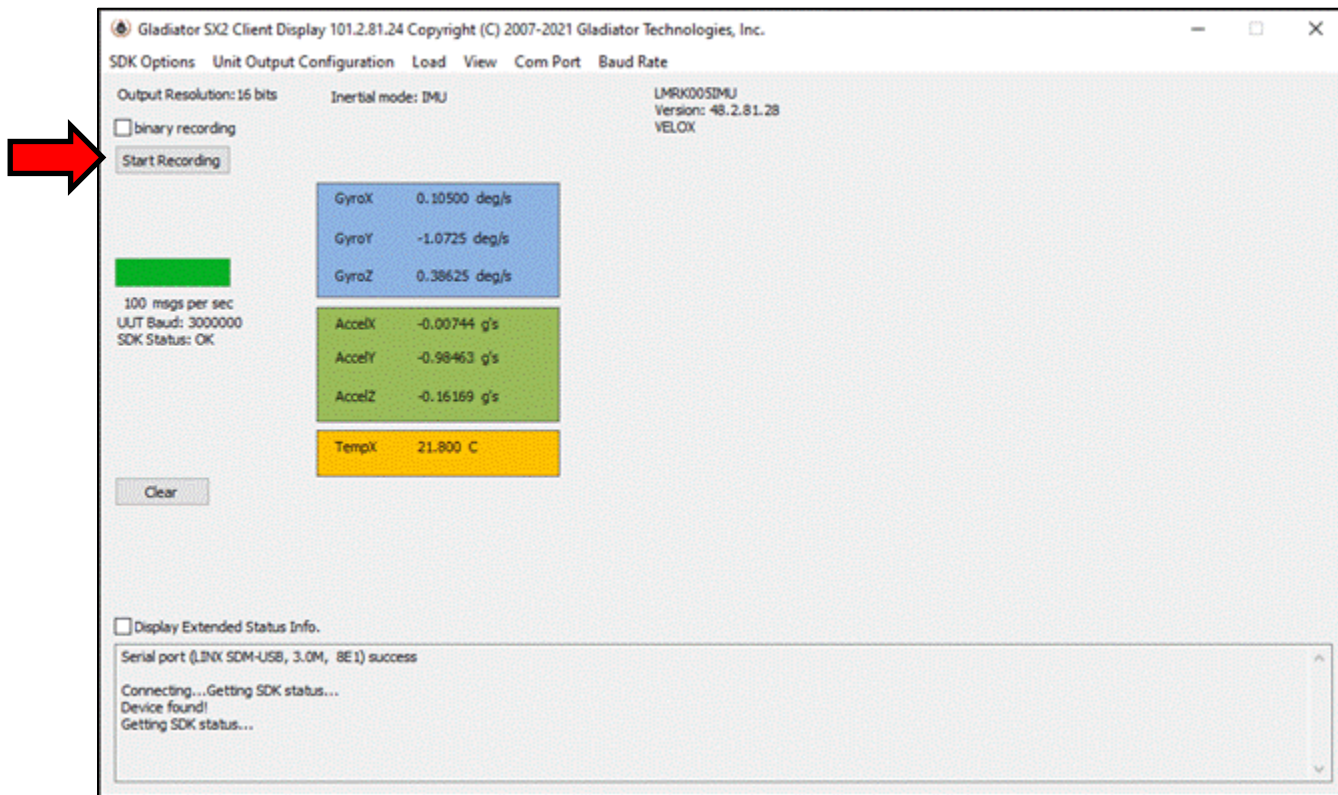

Figure 18. Data Recording button
*Glamr also has a data record feature that captures data streaming from the UUT and puts it into a CSV format. This enables the user to easily view these data files in Excel or database format. The user should click the Start Recording button (Figure 18) to initiate the data record function.*